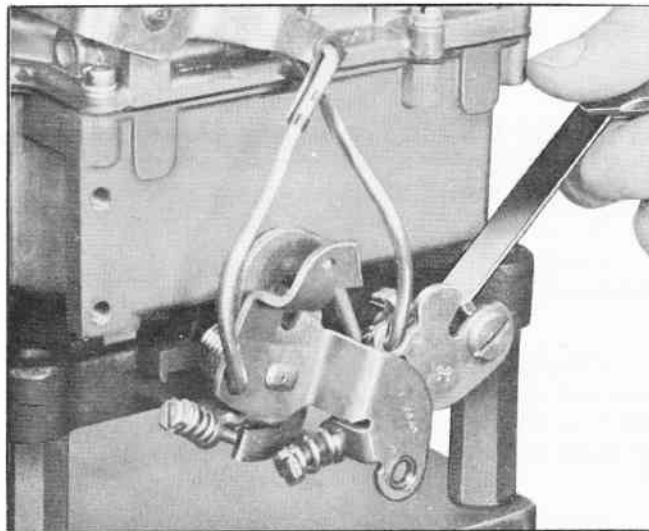

Fig. 29 Checking Secondary Throttle Lockout Adjustment
1. With the choke valve closed so that secondary lockout tang is in the fast idle cam slot, check clearance between fast idle cam and tang (Fig. 29). The clearance should be .015".